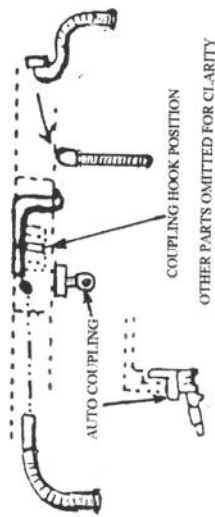

Fig. 14. LOCO END, CAST AUTO COUPLING, STEAM & VACUUM PIPES
n. Fit the loco end cast auto coupling link and, steam and vacuum pipes, Fig.14. (Note: To ensure a fit some filing of the mounting ends may be necessary).